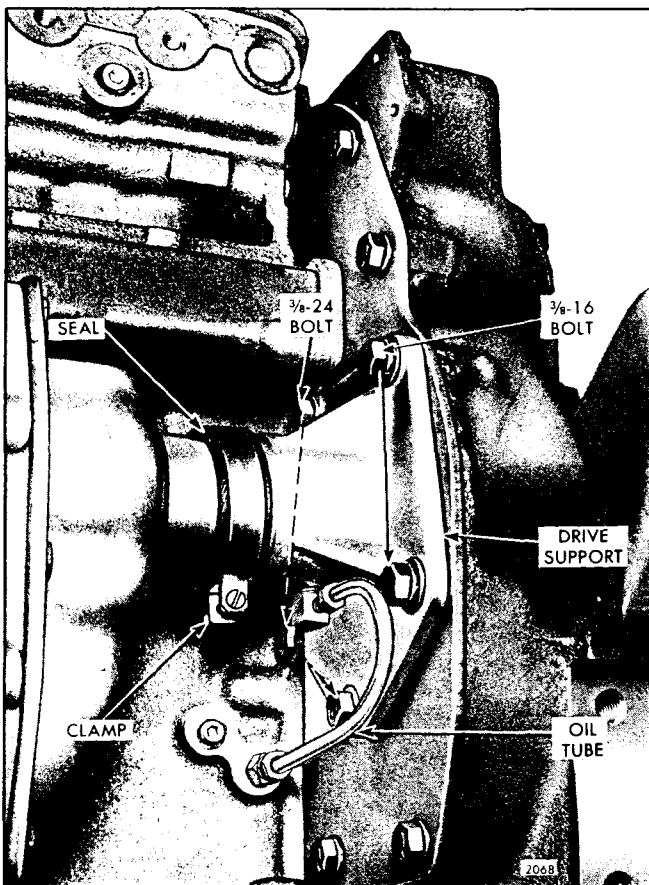

Fig. 1 - Blower Drive Support Mounting on 4-53 In-Line Engine
The blower drive gear is driven by the camshaft gear (4-53 engine) or the left-bank camshaft gear (6V-53 engine). The gear is keyed and pressed onto a shaft, which is supported in the blower drive support. This support, on a 4-53 engine, is attached to the rear end plate on the blower side of the engine (Fig. 1). On a 6V-53 engine, the blower drive support is mounted on the flywheel housing (Fig. 2).
2. Refer to Fig. 1 and loosen the blower drive seal clamp.
2. Disconnect the lubricating oil tube (Fig. 1) from the blower drive support.